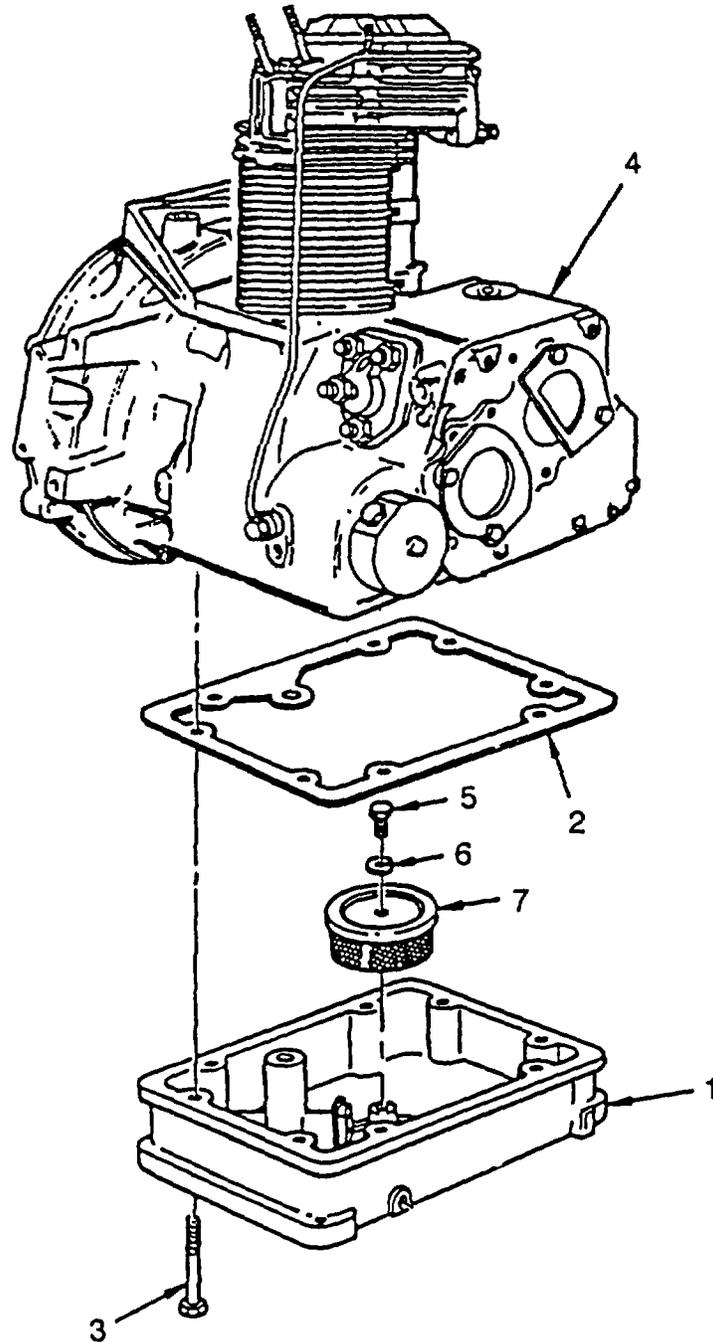

Figure 5-22. Oil Pan, Gasket and Strainer
- (1) Removal. (Refer to Figure 5-22).